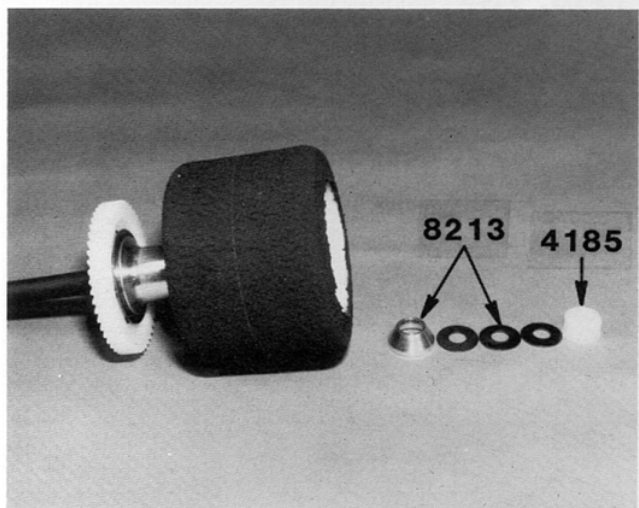

Fig. 66
□ **Figs. 66 & 67**—Slip the wheel on the axle. Now slip the tapered aluminum spacer on next, so that the smallest tapered end goes on first. Now slip the three tapered belleville washers on next, so that the taper is pointing to the outside. Screw the nylon nut on and tighten by hand. Hold the axle in your left hand. Turn the wheel with your right hand. It should turn freely. If it doesn't, the drive rings are misaligned. We'll adjust the diff later.